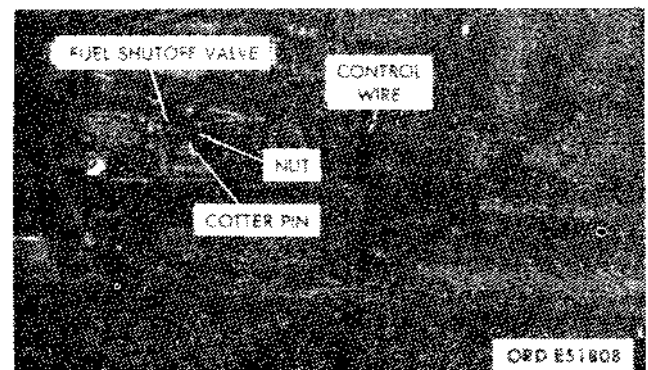

Figure 2-84. Removing fuel shutoff control—multifuel only.
- (1) Position the emergency shutoff control on the instrument panel. Secure the control to the panel with a lockwasher and nut.
- (2) String the control cable through the cowl opening, and secure it to the clamp with a bolt and nut.
- (3) Position the collar and control cable wire end to the fuel rack lever. Tighten the setscrew securing the wire to the collar.
**2-81. Fuel Shutoff Control-Multifuel Models (Fig. 2-84).**
- (1) Remove the retaining nut and lockwasher securing the shutoff control to the instrument panel.
- (2) Remove the cotter pin from the pin securing the fuel shutoff control to the fuel shutoff valve. Remove the castellated nut, washer, and screw, and remove the control wire.